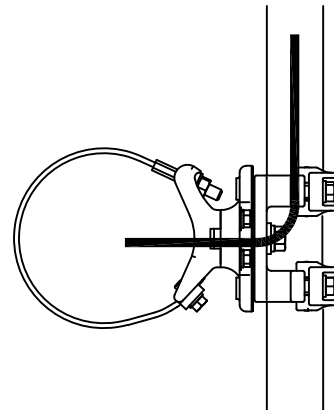

Figure 4
15. If needed route the wiring through the tube and to the electrical connection. (Figure 4)